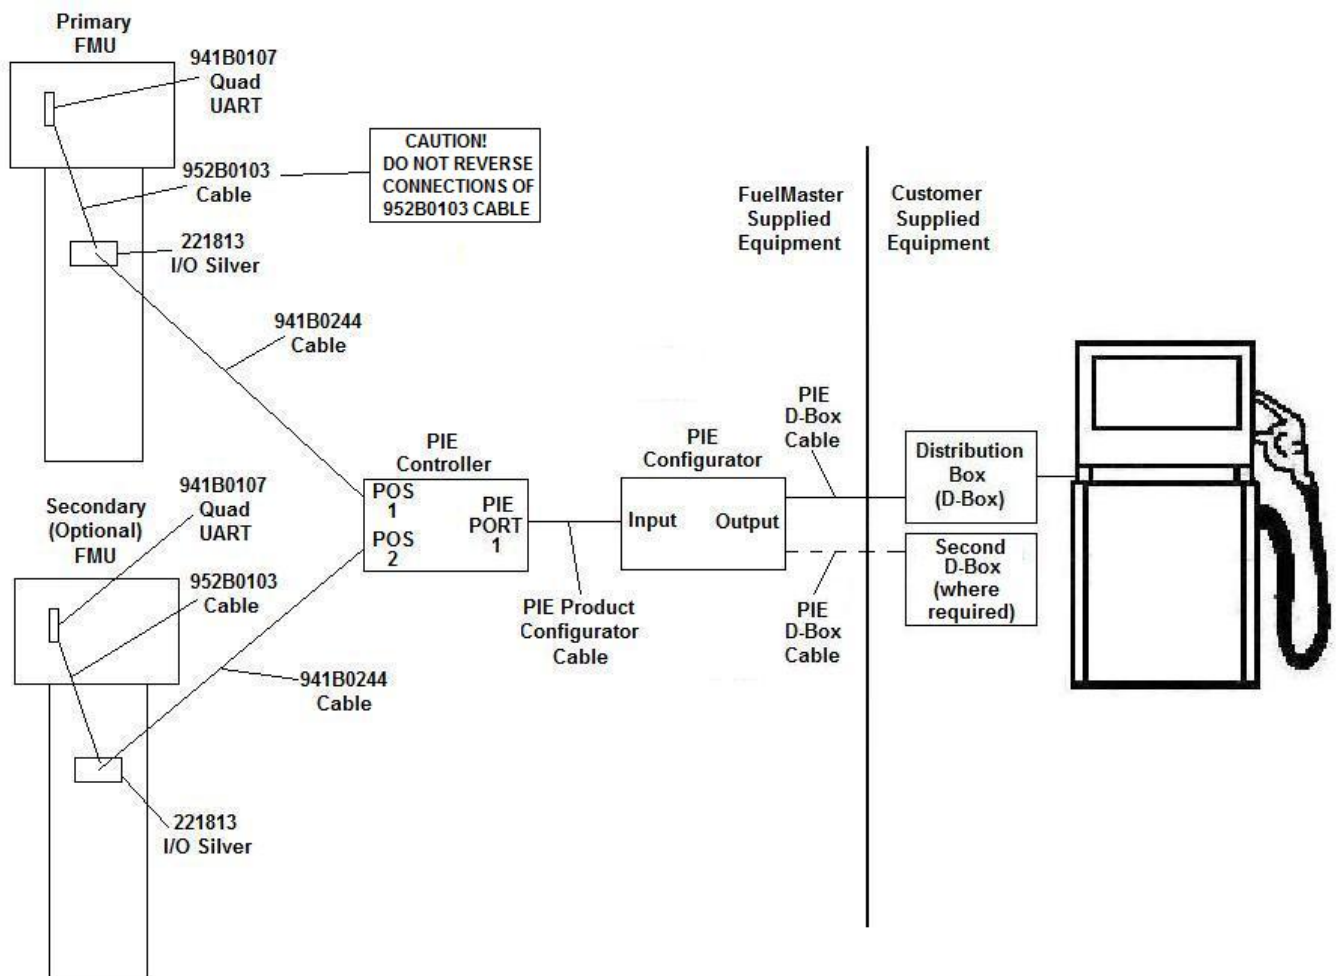

Figure H-1. Electronic Dispenser Interface Kit Equipment
- **Very Important!** These procedures provide guidance for the installation of the FuelMaster® Supplied Equipment shown in Figure H-1. Procedures to install or troubleshoot the Customer Supplied Equipment are not included. A technician familiar with the Customer Supplied Equipment must be present for this installation. Any problems with the Customer Supplied Equipment will prevent the system from functioning properly. Installing the FuelMaster® Supplied Equipment will not correct problems with the Customer Supplied Equipment.
Description. Figure H-1 is a representation of an Electronic Dispenser Interface Kit interfacing to an electronic dispenser. The FuelMaster® Supplied Equipment basically replaces the POS (point of sale) device which may be found at a convenience store or truck stop. Electronic Dispenser Interface Kits are available for various models of Gilbarco, Dresser Wayne, Tokheim, Bennett, Schlumberger, and Kraus electronic dispensers. Some other dispensers may use one of these protocols or similar parts. A Gasboy 8800 series dispenser, for example, uses a Gilbarco electronic Legacy CPU, and can use the Gilbarco Legacy Electronic Dispenser Interface Kit. No interface kit is made specifically for the Gasboy 8800.